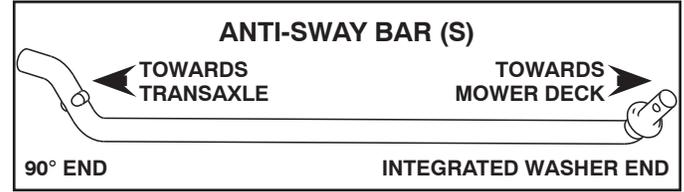

Fig. 24
5. INSTALL ANTI-SWAY BAR (S) (IF EQUIPPED) (See Fig. 24 - 26)